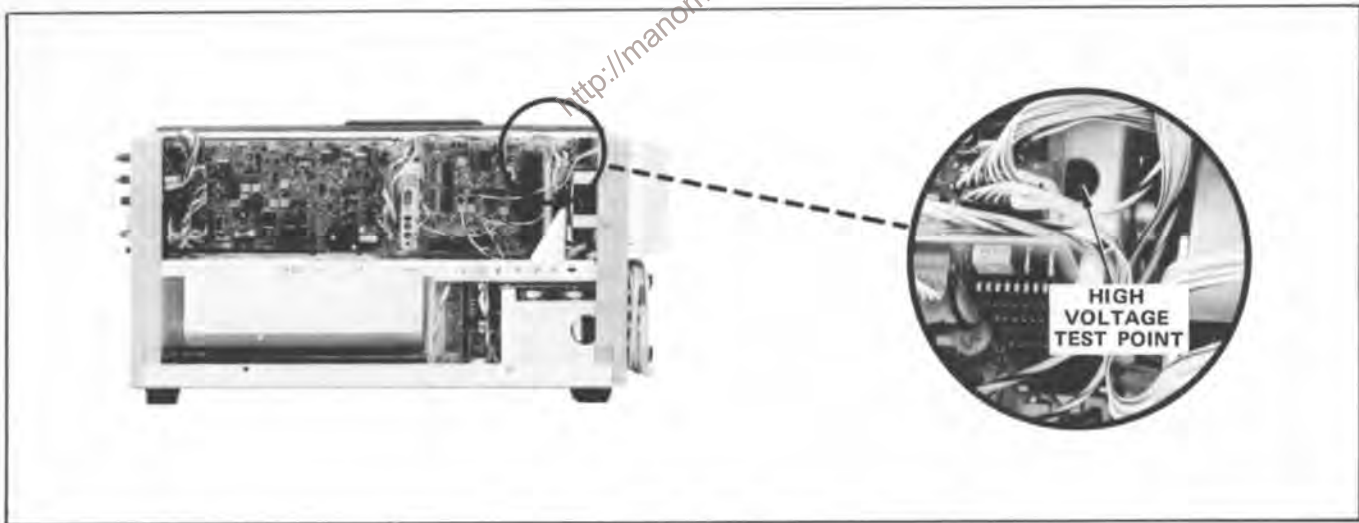

Figure 5-3. Location of High-Voltage Test Point.
- b. Set the dc voltmeter (vom) to measure at least -1525 volts and connect it between the high-voltage test point (see Figure 5-3) and chassis ground.